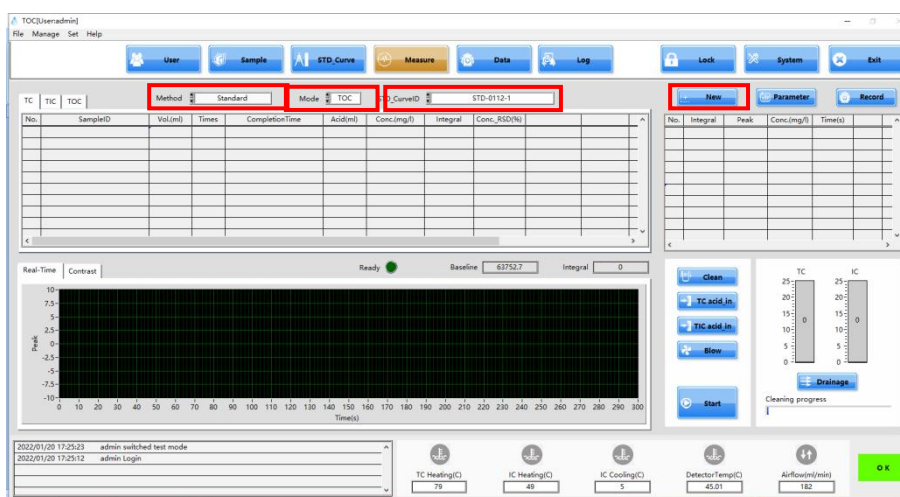

Fig 4.60
Step 3 After the pop-up window is closed, the user can select the sample test mode and standard curve, and confirm the standard curve according to the basic parameters given by the pop-up window (Fig. 4.60).